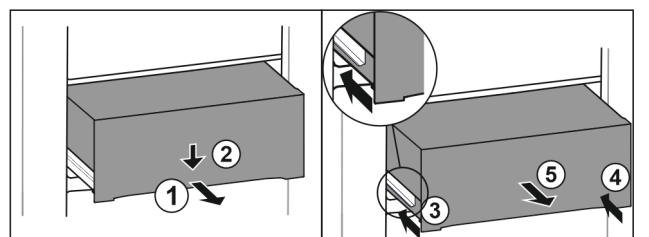

Fig. 80
- ▶ Pull out drawer half-way. *Fig. 80 (1)*
- ▶ Push the drawer down at the front. *Fig. 80 (2)*
- ▶ Push the left rail in by about 2 cm. *Fig. 80 (3)*
- ▶ Push the right rail in by about 2 cm. *Fig. 80 (4)*
- ▶ Remove drawer to the front. *Fig. 80 (5)*